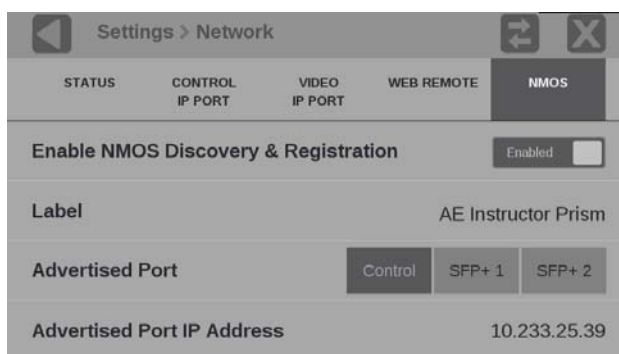

Figure 42: NMOS discovery and registration enabled
3. Slide the **Enable NMOS Discovery & Registration** control to **Enabled** or **Disabled**. (See Figure 42.)